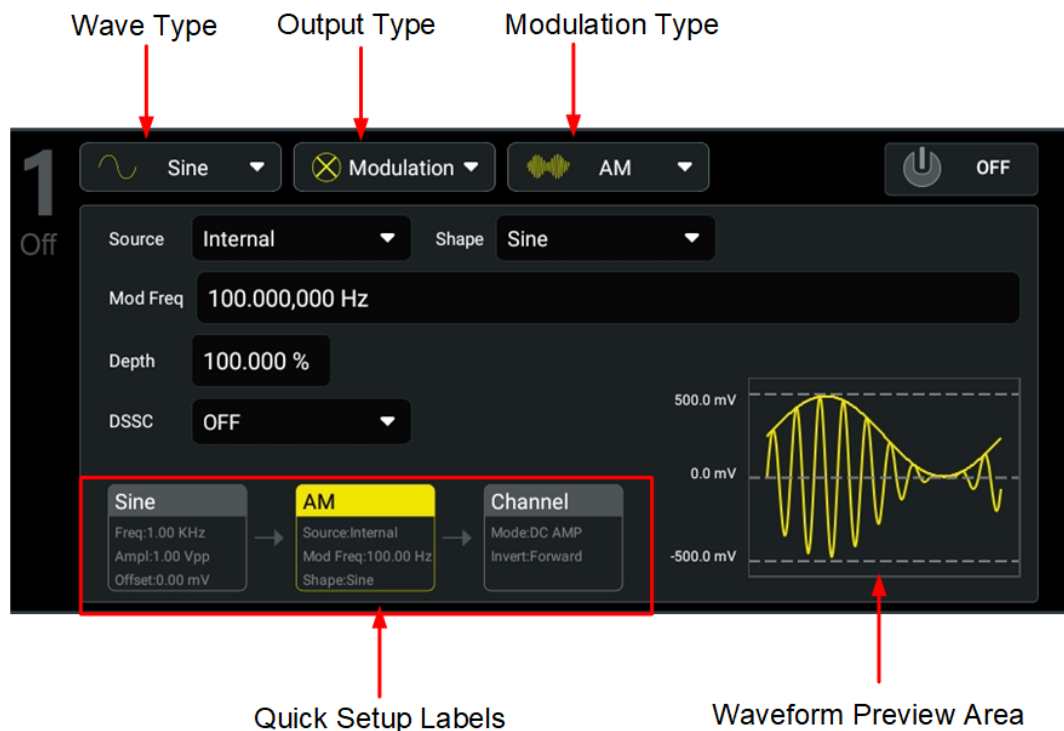

Figure 21.5 Modulation Mode Interface
21.3.1 Amplitude Modulation (AM)
In Amplitude Modulation (AM), a modulated waveform consists of a carrier waveform and a modulating waveform. The amplitude of the carrier waveform is varied by the instantaneous voltage of the modulating waveform. In the interface as shown in Figure 21.5, click or tap the "Modulation Type" drop-down button to select "AM" and set its parameters.
21.3.2 Frequency Modulation (FM)
In Frequency Modulation (FM), a modulated waveform consists of a carrier waveform and a modulating waveform. The frequency of the carrier waveform is varied by the instantaneous voltage of the modulating waveform. In the interface as shown in Figure 21.5, click or tap the "Modulation Type" drop-down button to select "FM" and set its parameters.
21.3.3 Phase Modulation (PM)
In Phase Modulation (PM), a modulated waveform consists of a carrier waveform and a modulating waveform. The phase of the carrier waveform is varied by the instantaneous voltage of the modulating waveform. In the interface as shown in Figure 21.5, click or tap the "Modulation Type" drop-down button to select "PM" and set its parameters.
With Amplitude Shift Keying (ASK), you can configure the instrument to "shift" its output amplitude between two preset values (called the "carrier amplitude" and the "modulation amplitude"). In the interface as shown in Figure 21.5, click or tap the "Modulation Type" drop-down button to select "ASK" and set its parameters.
With Frequency Shift Keying (FSK), you can configure the instrument to "shift" its output frequency between two preset values (called the "carrier frequency" and the "hop frequency"). In the interface as shown in *Figure 21.5*, click or tap the "Modulation Type" drop-down button to select "FSK" and set its parameters.
In Phase Shift Keying (PSK), the carrier waveform is phase "shifted" between two phase settings ("carrier phase" and "modulation phase"). In the interface as shown in *Figure 21.5*, click or tap the "Modulation Type" drop-down button to select "PSK" and set its parameters.